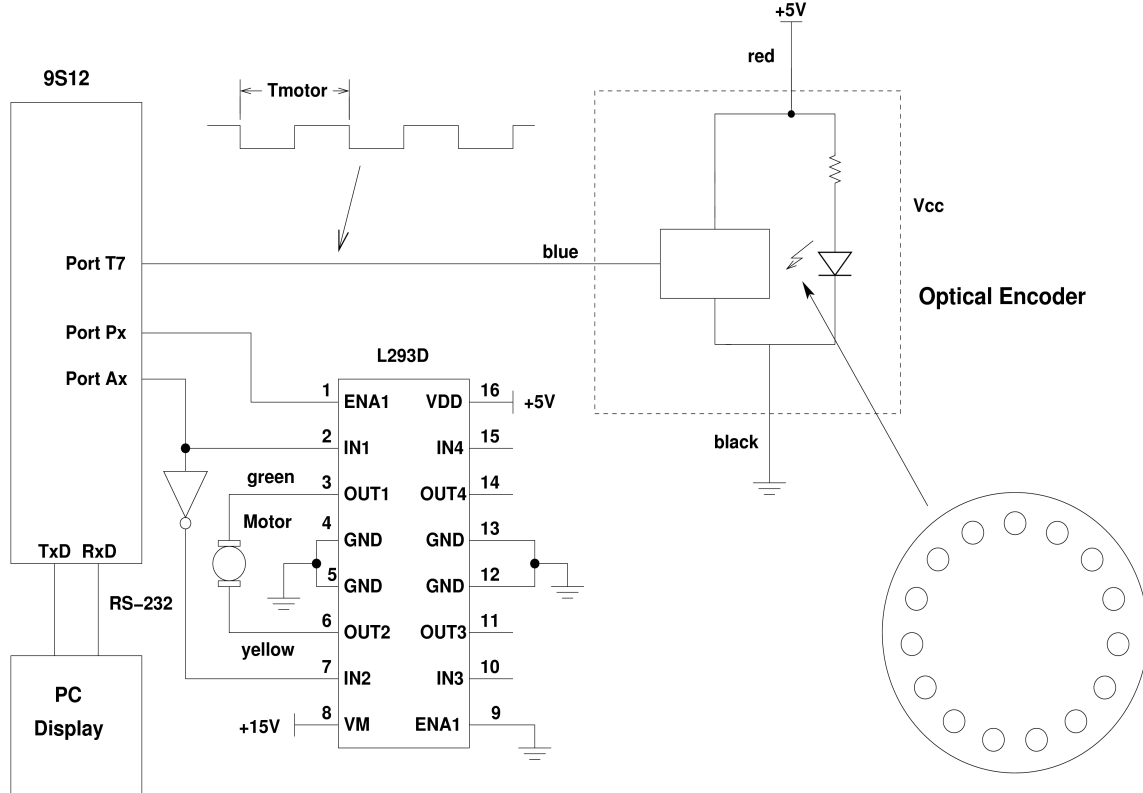

Figure 1. Using a pulse-width-modulated (PWM) signal to adjust the speed of a motor.
The speed of a motor can be adjusted by powering it with a pulse width modulated signal. Figure 1 shows how this can be done. The L293D motor controller as a switch. When the signal on the enable (*EN1*) input of the L293D is high the switch is closed, current flows through the motor, and the motor speeds up. When the signal is low, the switch is open, no current flows, and the motor slows down. *IN1* and *IN2* determine the direction of the motor. When *IN1* is high and *IN2* is low, *OUT1* will be high and *OUT2* will be low. Changing the logic levels of *IN1* and *IN2* reverse the voltage levels on *OUT1* and *OUT2*, and the motor changes direction. With a high enough frequency PWM signal the amount the motor speeds up and slows down in one period is negligible, and the motor turns at a constant speed. By adjusting the duty cycle the speed of the motor can be controlled. For the motors you will be using in this lab, use a PWM frequency of about 5 kHz.
2. Program your 9S12 to generate a PWM frequency of 5 kHz, with an active high PWM signal with a duty cycle of 50%. Connect the circuit shown in Figure 1. Use your logic probe to verify that the optical encoder is working.